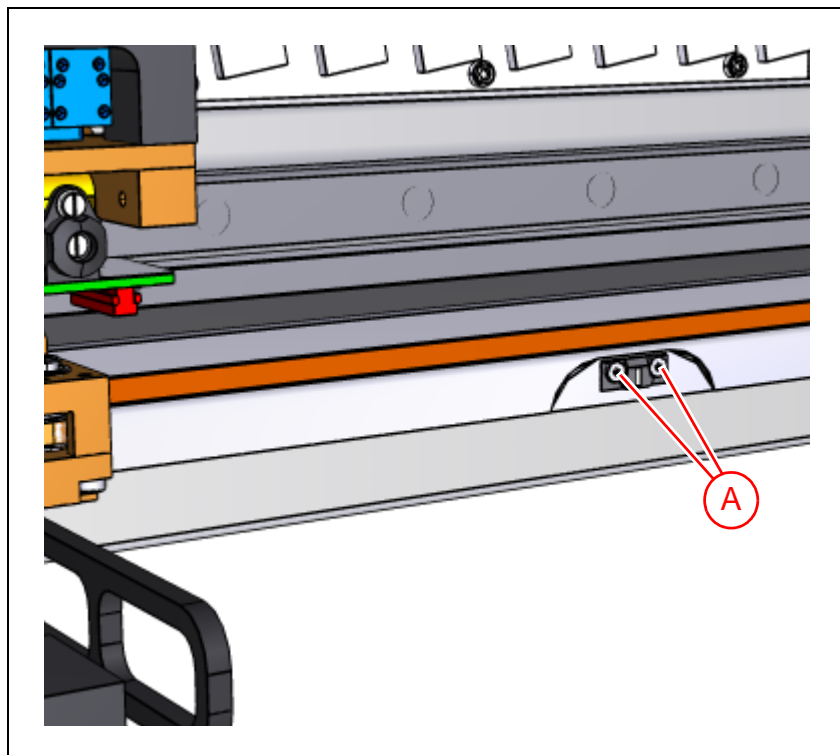

Figure 5-14. Adjusting the X-wagon readhead.
- Monitor the readhead LED indicator (through the opening in the X wagon) while moving the X wagon ('A' in Figure 5-14).
4. If the readhead does not indicate red when it passes the reference mark (left to right direction), then adjust the reference mark by using an Allen key to turn one of the set screws ('A' in Figure 5-14) on the reference mark anti-clockwise 1/8 turn.
- Loosen the locking nut ('B' in Figure 5-14) somewhat and carefully adjust the ATA sensor ('A') until the value is within the stated interval (650 - 850).